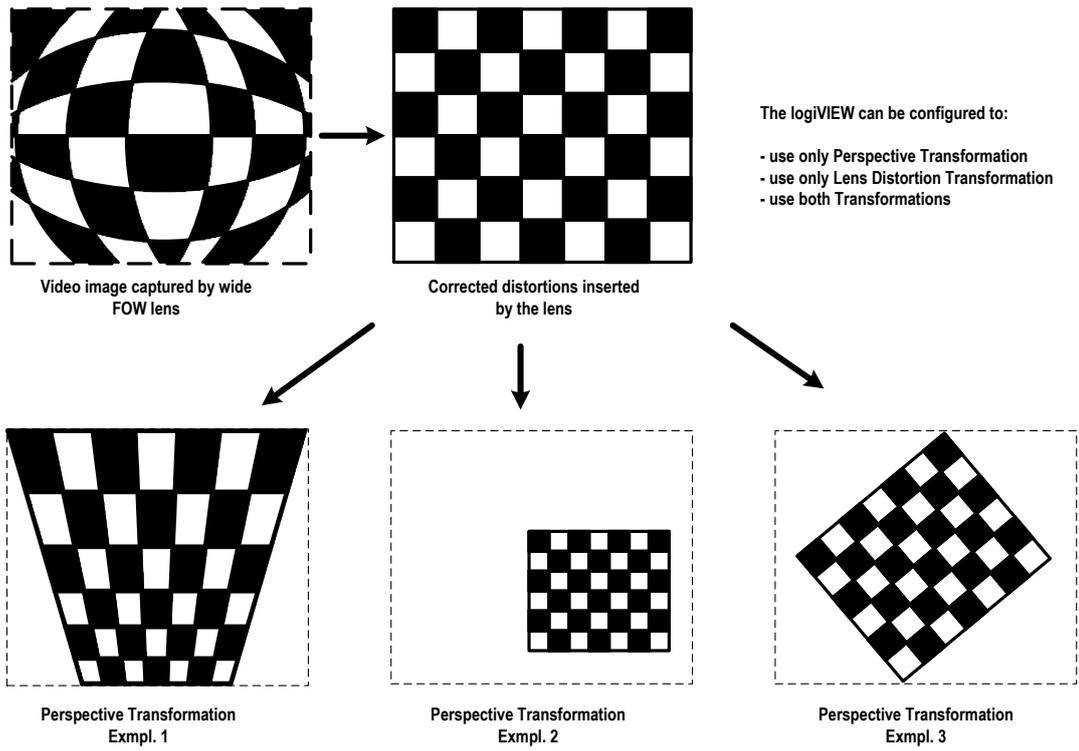
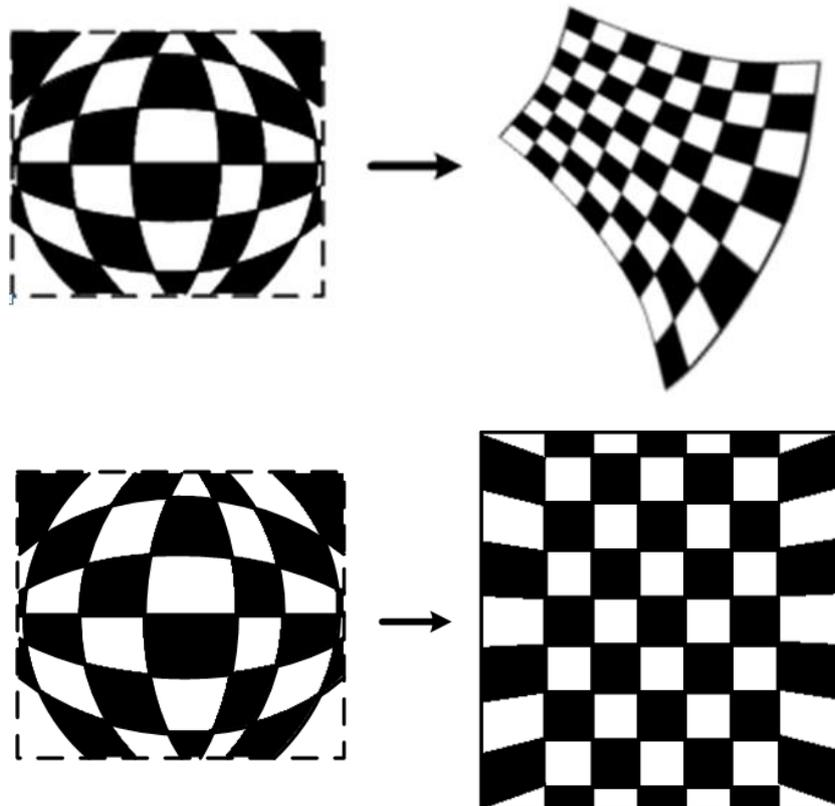
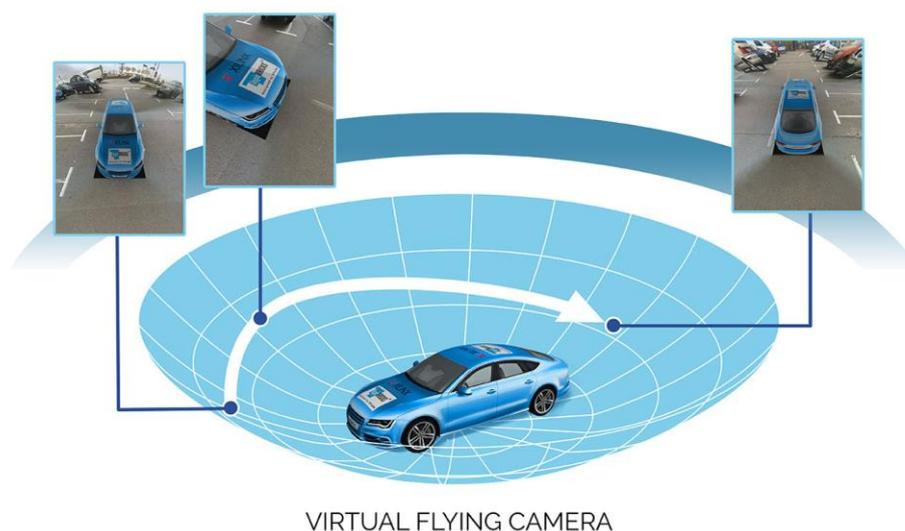
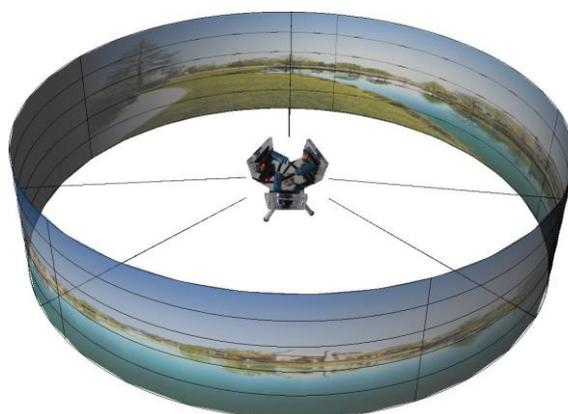

Figure 1: logiVIEW Processing Flow with Lens Correction and Homographic Transformation Examples
Figure 2: Example MLUT Transformation
Figure 3: Xylon's Four-Camera Surround View DA Demo System – 3D View generated by logiVIEW MLUTs
Figure 4: Panoramic View Camera Example
The logiVIEW Multiview 3D Video Transformation Engine is Xylon's logicBRICKS IP core optimized for AMD Zynq™ 7000 SoC, Zynq™ UltraScale+™ MPSoC, Versal™ ACAP and newer FPGAs. It is designed for high-performance and real-time processing of multiple video streams or still images. The logiVIEW IP core removes fish eye distortions caused by extreme wide-angle Field Of View (FOV) lenses, makes perspective corrections and other homographic transformations (Figure 1) on the captured video. It can also execute complex arbitrary non-homographic transformations, such as video texturing on curved planes (Figure 2), defined by MLUTs (Memory Look-up Table). MLUT transformations are key logiVIEW IP core's feature for 3D Surround View parking assistance ADAS applications (Figure 3). Multiple videos or still images are processed and can be stitched together, resulting in a high-definition video output image. Stitching and blending between multiple video streams is done within the logiVIEW IP core without the need for external IPs.
LogiVIEW can be used in automotive Driver Assistance (DA) applications, such as the Multi-Camera System for Surround View DA (Figure 3), Heads-Up Displays (HUD), Lane Departure Warning, Rear-View (Back-Up) and others. Due to its high versatility and configurability, it can be also used in other single or multi-camera applications, such as medical endoscopy, surveillance systems (Panoramic 360° View camera – Figure 4), defense equipment, etc. High accuracy, provided by Xylon's patented camera position calibration and highly accurate lens calibration, of the surround view system allows for it to be used as a base for automated parking applications.
Figure 1 shows several example outputs. MLUT can also perform nonlinear transformation, for example video texturing on a curved plane (Figure 2). The MLUT transformations are key logiVIEW IP core's features for 3D Surround View parking assistance ADAS applications (Figure 3).